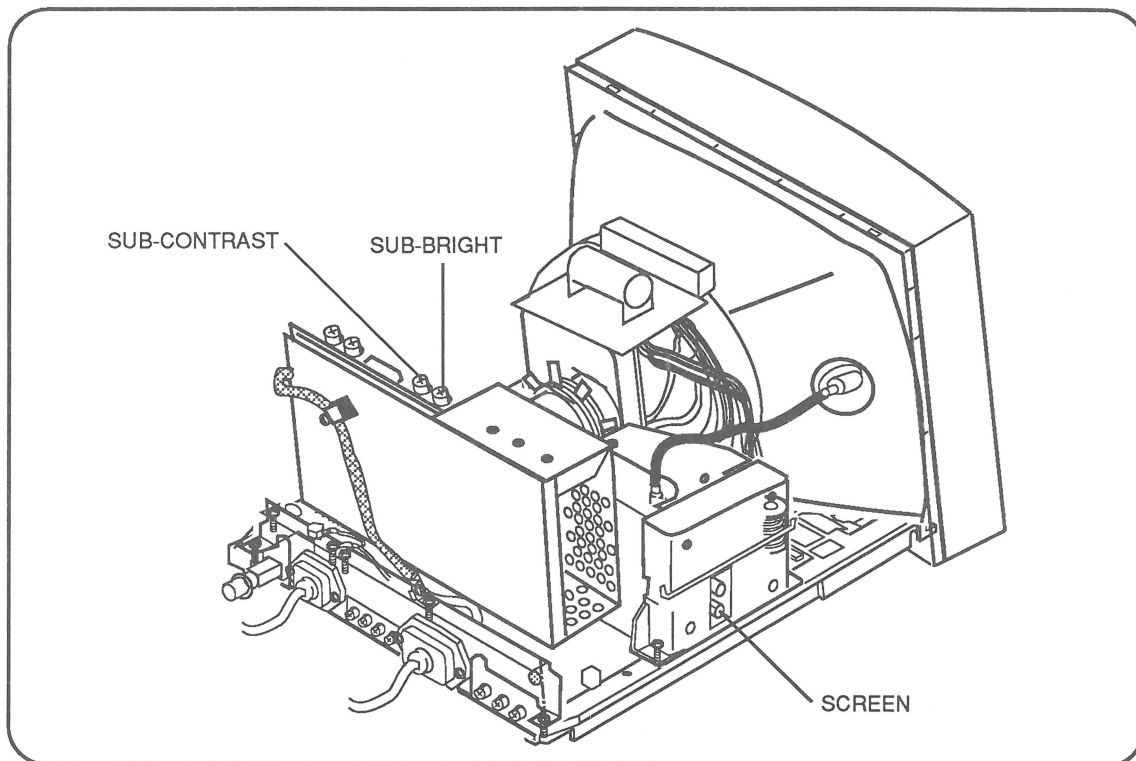

Figure 3-10 SUB-BRIGHT and SCREEN Controls
- .400 V (\pm .004 V) for **CRT B**If the reading is off, adjust the SCREEN control on the flyback transformer (see **Figure 3-10**).
9. **Figure 3-10.** Because the monitor has been displaying the Full Black Screen pattern and you need a visible pattern for the remainder of this step, click the mouse or press the Space bar to advance to the next monitor test pattern. Then turn up (turn clockwise) the SUB-BRIGHT (VR202) control until the raster is visible.
11. **Figure 3-10.** Adjust the SUB-BRIGHT control until the first bar is black (as black as the screen border) and the second bar is barely visible.